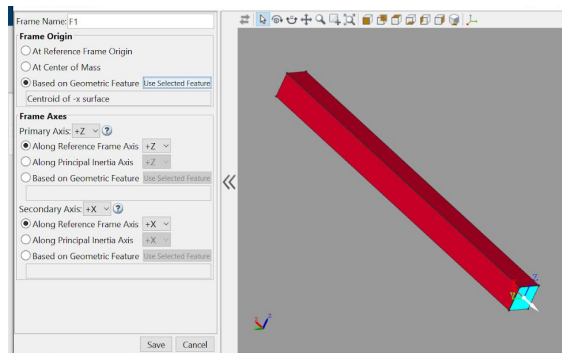

Figure 7: New frame setting for pendulum
b) Add a brick solid block to model the pendulum. The dimension of the pendulum should be set to 2m x 0.15m x 0.15. The point mass of the pendulum should be set to 1kg. Under the Frames tab of the pendulum click the + icon to add a new frame and select the origin based on a geometric feature, so that the pendulum is in an initial upright configuration. Rotate the view, click the back surface of the 0.15m x 0.15m face, then click Use Selected Feature to have Centroid of -x surface, shown in the textbox below. Refer to Figure 7.